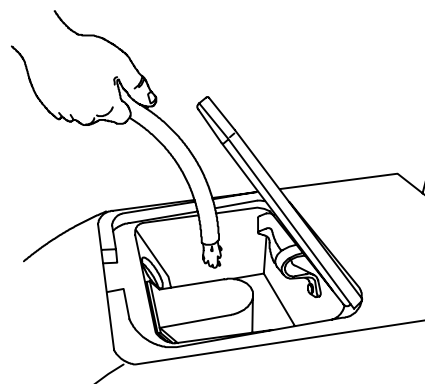

FIG. 45
3. Flush out inside of recovery tank with clean water (Figure 45).